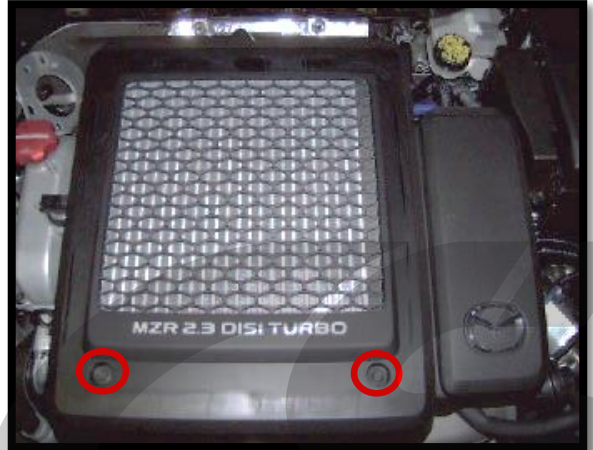

Figure 1a
a) Remove the cover from the top mount intercooler (TMIC) by removing the two 10mm bolts. **Circled in red in Figure 1a.**